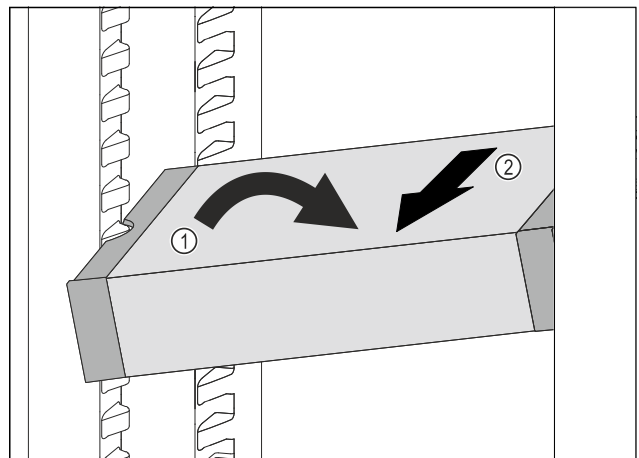

Fig. 123
- ▶ Set VarioSafe in refrigerator compartment at an angle. Fig. 123 (1)
- ▶ Take VarioSafe out to the front. Fig. 123 (2)